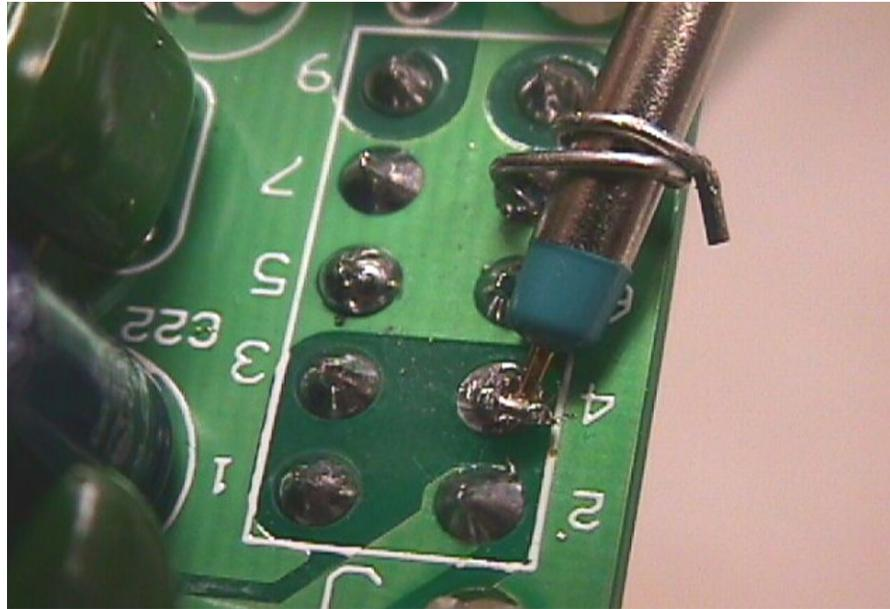

Figure 3 – Probe Connection Example
- 7.6.4 If possible, remove the alligator clip ground from the probe and take a very small jumper from the ground of the PWB to the ground sheath of the probe (refer to Figure 3).